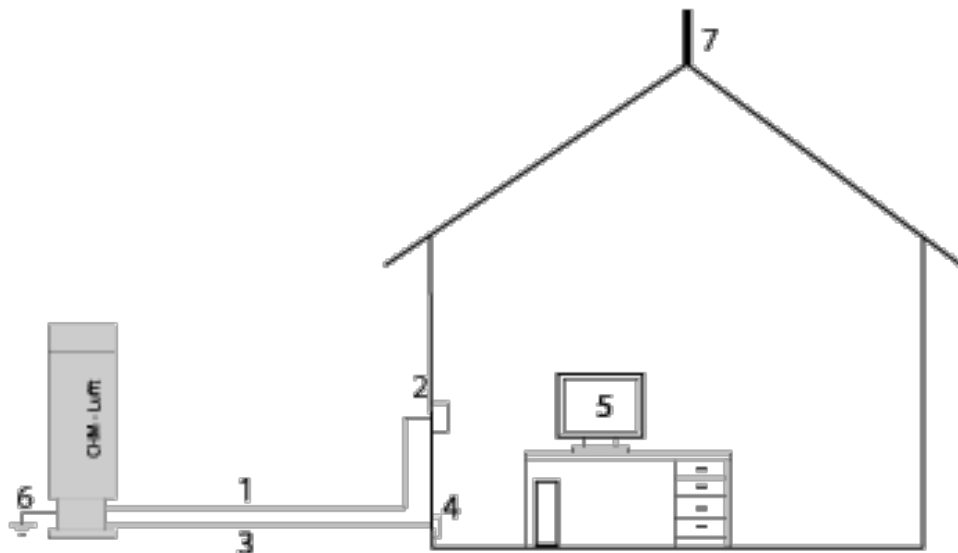

Figure 10 Schematic sketch of the electrical installation.
Figure 10 shows a schematic sketch of the electrical installation of the CHM 8k. The power supply (1) to the device must be connected via an external mains switch (2) which needs to be easily accessible to cut the power to the device when required. It must be marked as belonging to the CHM 8k and a pre-fuse 10A gG time-lag must be used only for 230VAC-devices. The connection box should be installed at a distance of < 3 m. An external lightning conductor (7) must be installed to protect the device from direct lightning strikes. All connections to the device must be made according to the respective country-specific regulations.